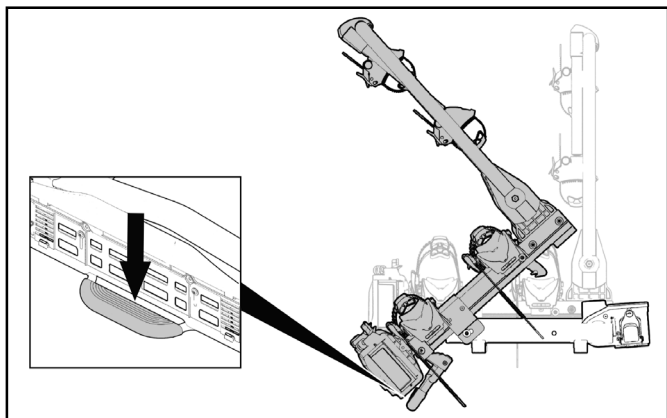

Figure 23 Folding down the bike rack
- ▶ Hold the carrier firmly onto the bicycle when folding it down. Release the lock by foot, and then tilt the carrier downwards by hand (Figure 23).